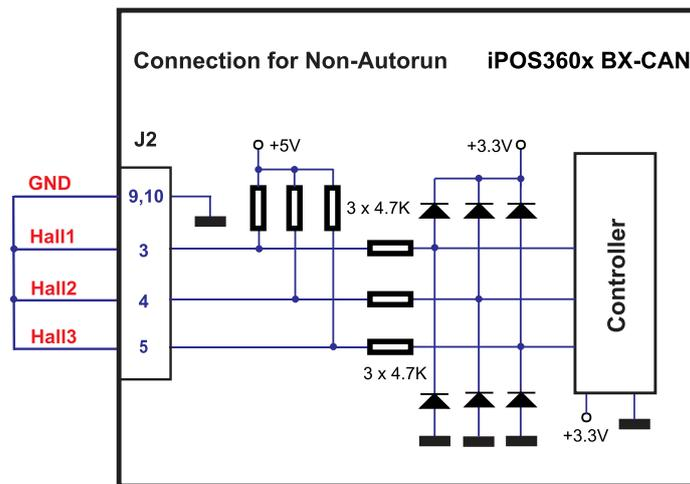

Figure 3.25. Temporary connection during power-on to disable **Autorun** mode
- b) Hardware – by temporary connecting all digital Hall inputs to GND, during the power-on for about 1 second, until the green LED is turned on, as shown in *Figure 3.25*. This option is particularly useful when it is not possible to communicate with the drive.